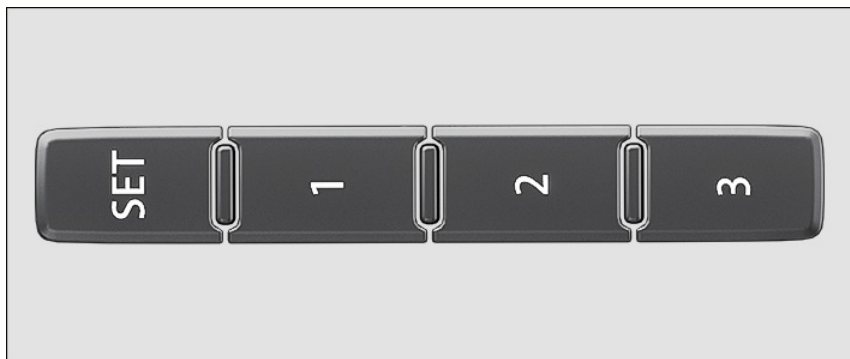

Fig. 78 On the outer side of the driver's seat: memory buttons.
5. Press the **SET** *fig. 78* button for longer than ten seconds.
4. Press the desired memory button *fig. 78*.